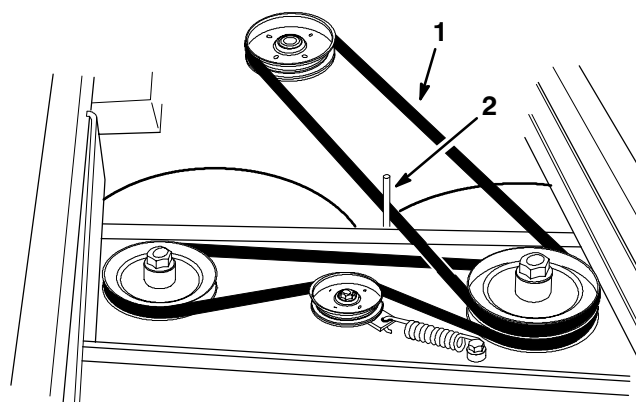

Figure 10
8. Check the position of the belt guide. The guide should be positioned about 3 mm (1/8") away from the belt. Adjust the belt guide as necessary (Fig. 10).